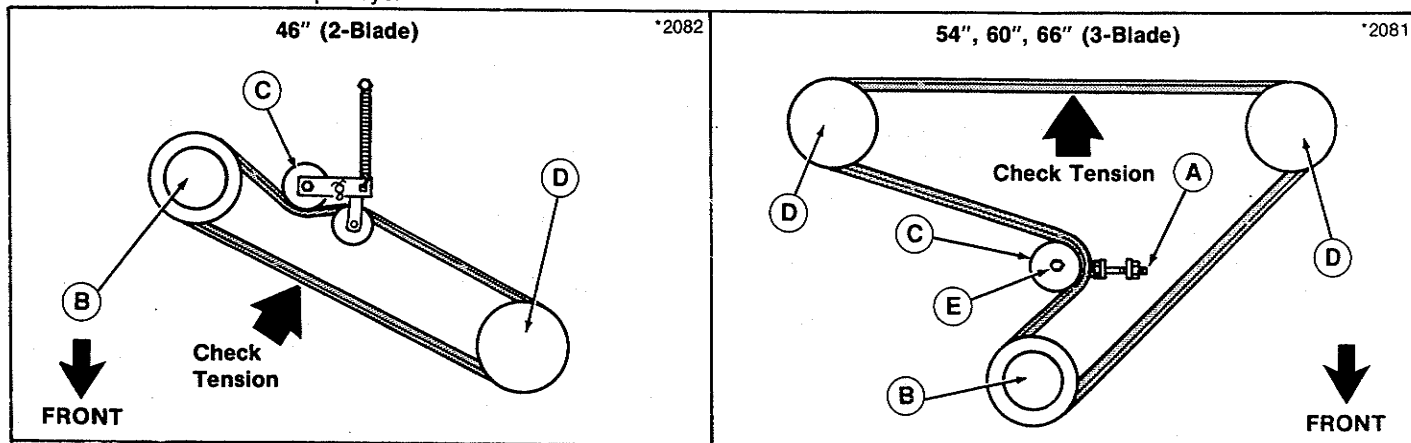

Figure 15
3. On 3-blade mowers, loosen nut (E, figure 15) and then back off nut from belt tension bolt (A) to provide slack in belt. Move idler pulley in slot to remove belt. On 2-blade mowers, pull idler pulley assembly away from spring to relieve belt tension.
5. Install new belt. Make sure belt is properly routed around V-pulleys and flat idler pulley. Refer to figure 15.
6. On 3-blade mowers, adjust belt tension by tightening nut on tension bolt. There should be approximately 3/4" deflection measured halfway between two outside arbors. Belt should be tight enough so there is no slippage during operation. Over-tightening belt tension can cause premature belt wear and pulley bearing damage. When adjustment is correct, retighten nut (E) on idler pulley.